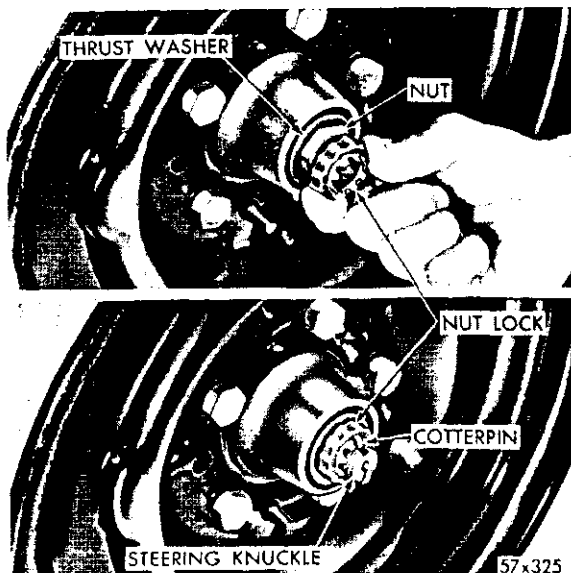

Fig. 19—Adjusting Front Wheel Bearings
To adjust the front wheel bearings (Fig. 19).
(1) Tighten the wheel bearing adjusting nut to 90 inch-pounds torque while rotating the wheel.
(2) Position the nut lock on the adjusting nut so one pair of the cotterpin slots aligns with the hole in the spindle (Fig. 19).
(3) Back off the adjusting nut and lock assembly to the next slot, and install the cotterpin.
(4) Clean the lubricant cap, coat the inside with wheel bearing lubricant (do not fill) and install the cap.
(5) Install the wheel, tighten the wheel nuts to 65 foot-pounds torque and install the wheel cover.